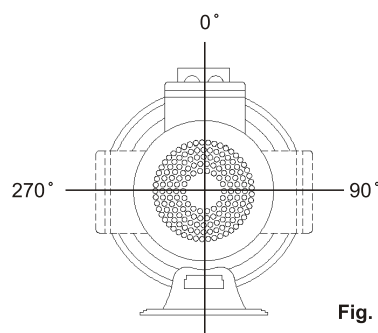

Fig. 2
- Position of terminal box (Fig.2)